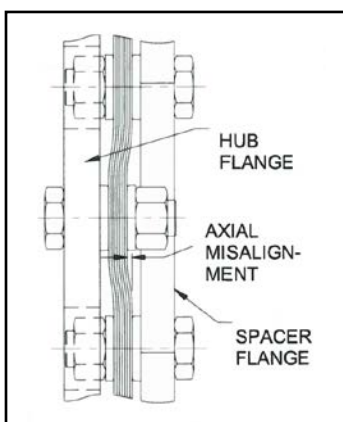

FIG.2: EXCESSIVE AXIAL MISALIGNMENT AT INSTALLATION
7. Move the equipment into place. Distance 'D' between shaft ends and/or flange face should match the target dimension within +/-25% of the coupling's axial capacity. Generally speaking the axial error at installation should not be visible to the naked eye- see Figure 2. See Table 1 or the assembly drawing for dimensions.